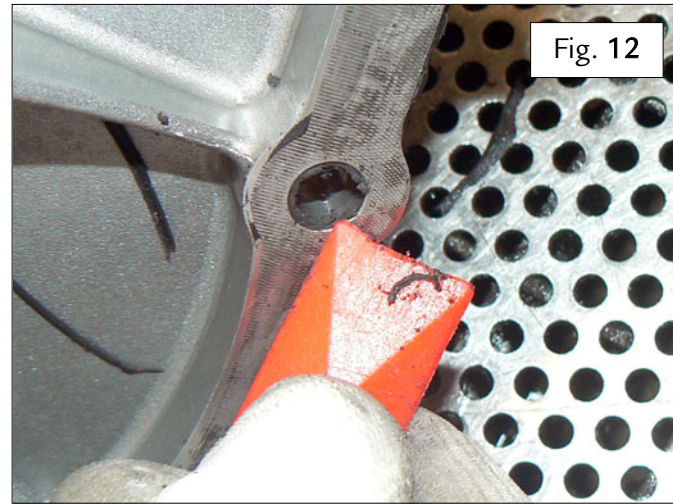

Fig. 12
- Using a Teflon spatula, remove all traces of sealant from the surfaces of the interface plate and the differential housing – Fig. 12.